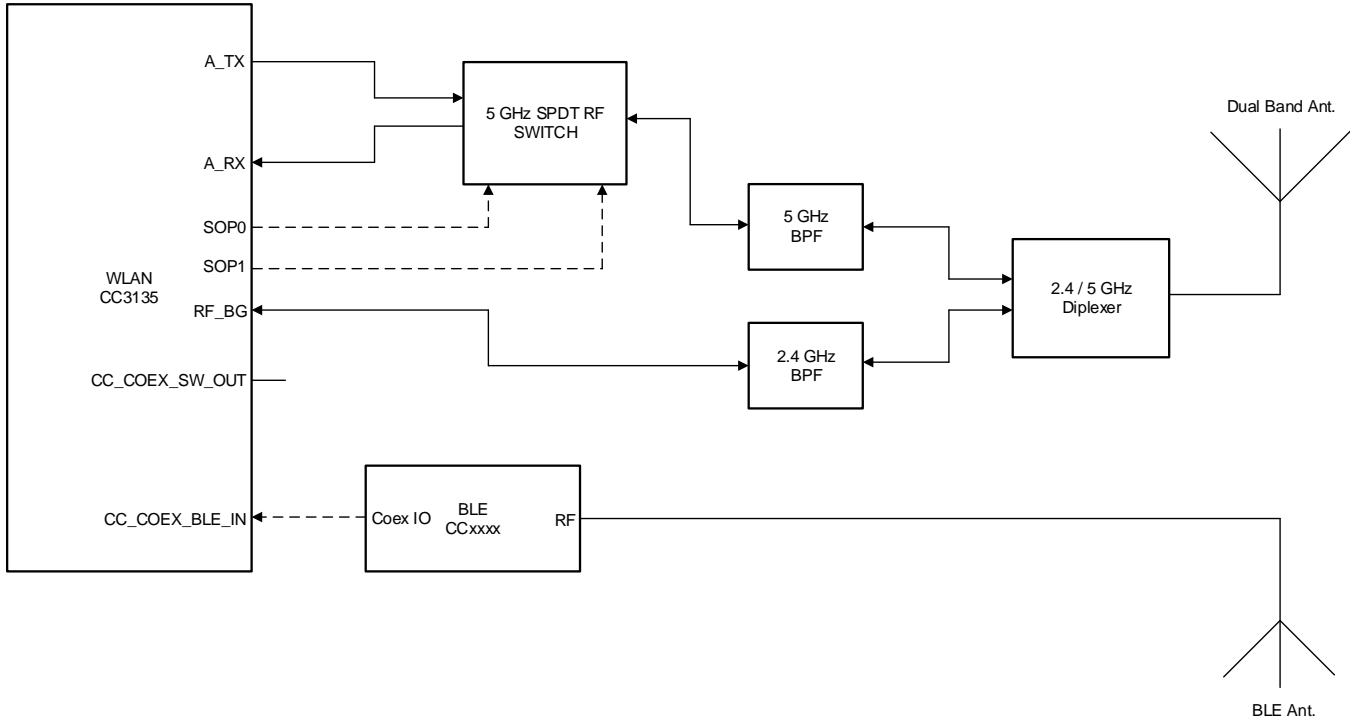

Figure 7-4. Dual Antenna Coexistence Solution with 5 GHz Wi-Fi®
- 5 GHz Wi-Fi band (see Figure 7-4)
Figure 7-4 shows the dual antenna implementation of a complete Bluetooth® low energy and WLAN coexistence network with the WLAN operating on either a 2.4- or a 5 GHz band. In this case, the 2.4 GHz and 5 GHz Wi-Fi share an antenna and the BLE has its own dedicated antenna. The SOP lines control the 5 GHz switch. Note in this implementation no Coex switch is required and only a single GPIO from the BLE device to the CC3135 device is required.